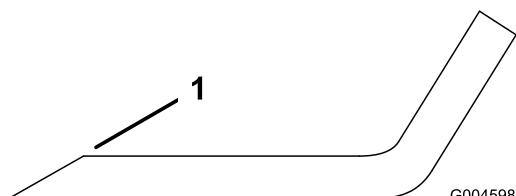

Figure 37
- 1. Use a file to sharpen the cutting edge at both ends of the blade (Figure 37). Maintain the original angle. The blade retains its balance if you remove the same amount of material from both cutting edges.